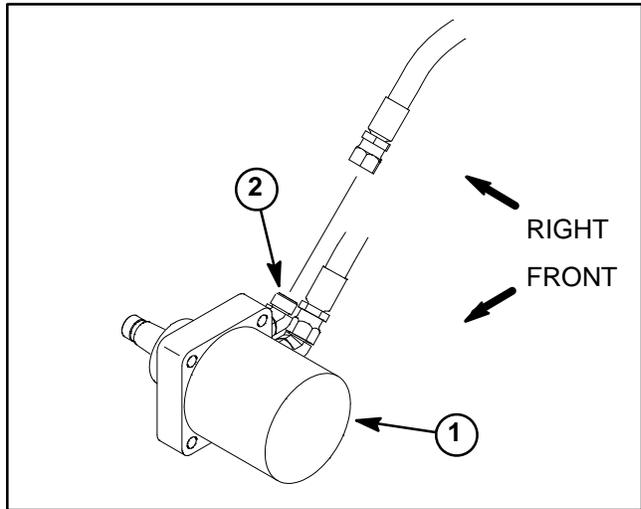

Figure 28
1. Disconnect hose from the upper hydraulic fitting of the rear wheel motor (Fig. 28).